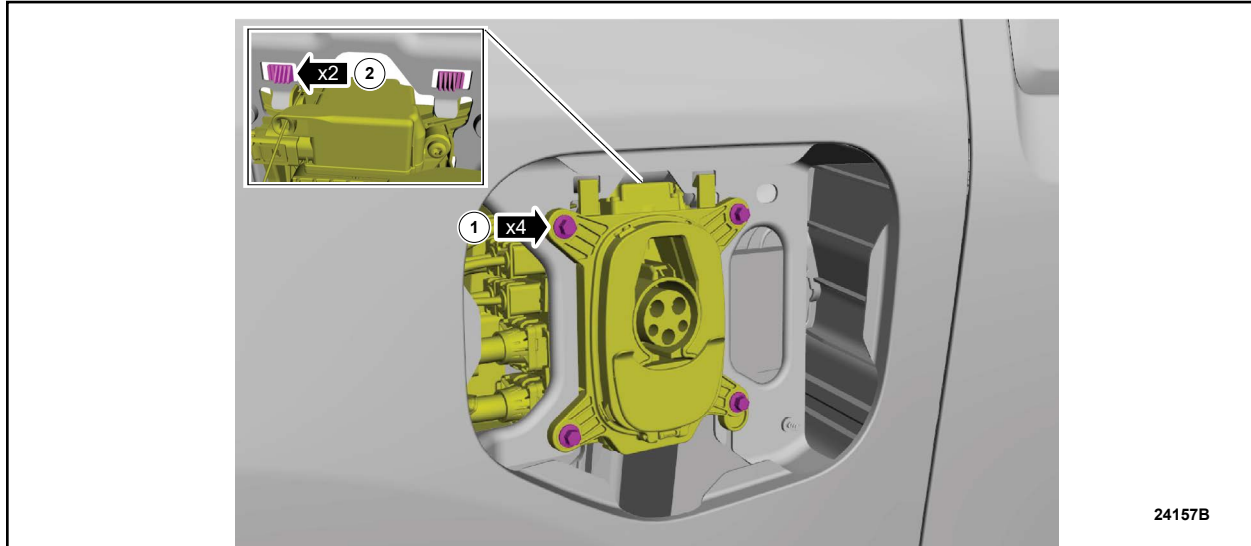

FIGURE 2
3. Remove the charge port bolts (1) and detach the charge port from the mounting bracket (2). See Figure 2.